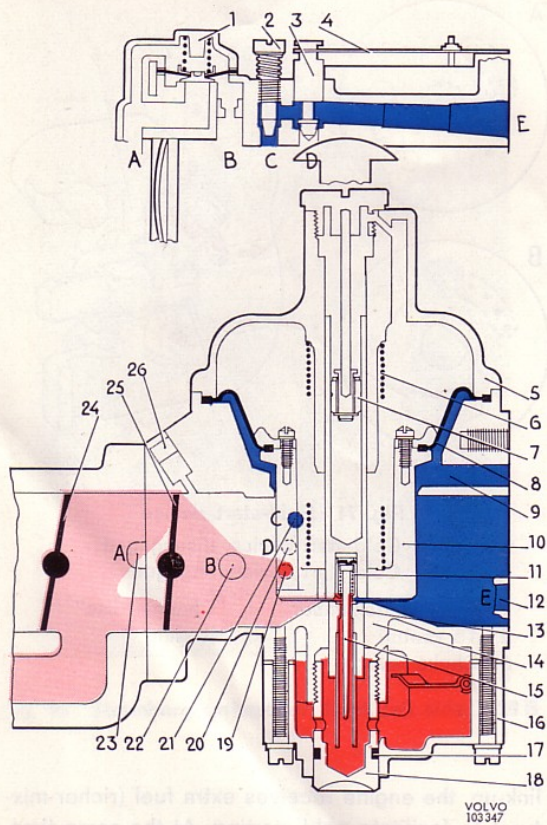
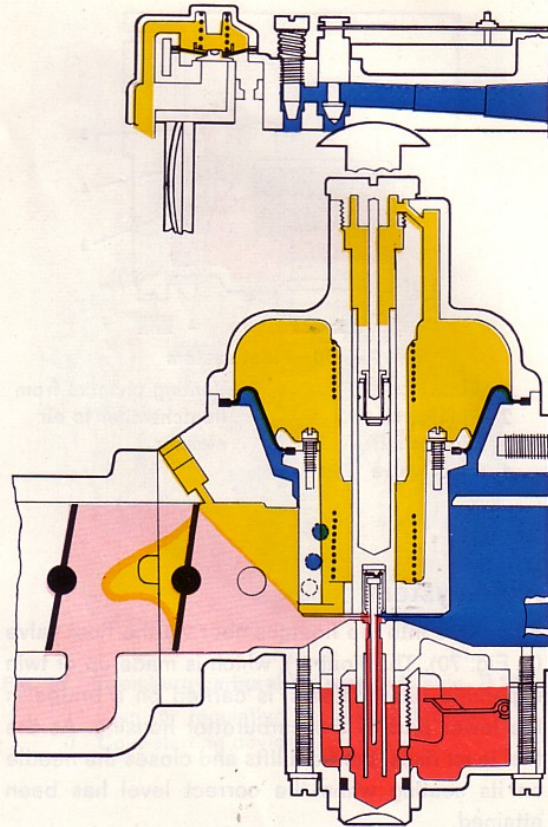
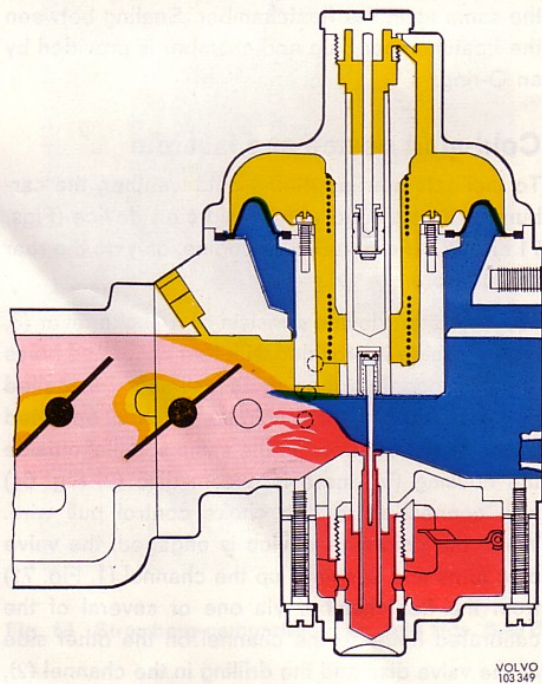

Fig. 72 Cold starting, principle
Fig. 73 Idling, warm engine
Fig. 74 Normal operation (with open secondary throttle)
When the engine is idling, the vacuum in the carburettor suction chamber is low and the column between the air valve and the bridge will be small (see Fig. 73). At this stage, the thicker section of the metering needle is in the jet and thus only a small quantity of fuel, corresponding to idling requirements, is sucked into the engine. The temperature compensator (Fig. 72) is regulated by a bi-metal spring (4) which influences a valve (3). When the engine is warm and the temperature in the carburettor rises, the valve opens and air is
supplied to the carburettor venturi to compensate for the increase in the fuel flow, which is obtained due to the alteration in the fuel's viscosity, see Fig. 73. Fine adjustment of the engine idling speed can be carried out with the idle trimming screw (2, Fig. 72).
When the throttle flap opens, approximately the same vacuum is obtained in the suction chamber as in the engine intake manifold. Due to the pressure difference between the underside of the air valve, where there is pressure in the carburettor inlet port, and the upper side of the valve, where there is vacuum, the valve lifts from the bridge. This also lifts the tapered metering needle (15, Fig. 72), which is attached to the valve, out of the jet. The effective choke area widens and increases the fuel flow. See Fig. 74.
When the air valve (10, Fig. 72) lifts, the damper plunger (7) is forced against its seat and oil is prevented from flowing past the lower side of the damper plunger from the upper side, and this retards the movement of the valve (10). A more powerful vacuum is temporarily obtained above the jet so that the fuel-air mixture becomes for the moment richer.